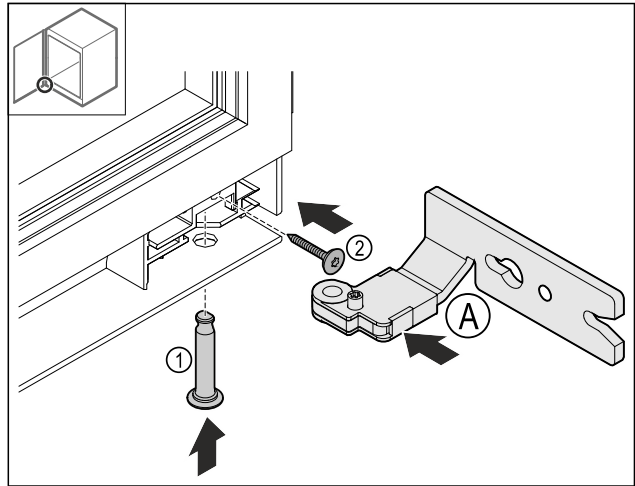

Fig. 23
- ▶ Insert the bottom hinge Fig. 23 (A).
- ▶ Insert the pin Fig. 23 (1) and hold it.
- ▶ Tighten the screw Fig. 23 (2).